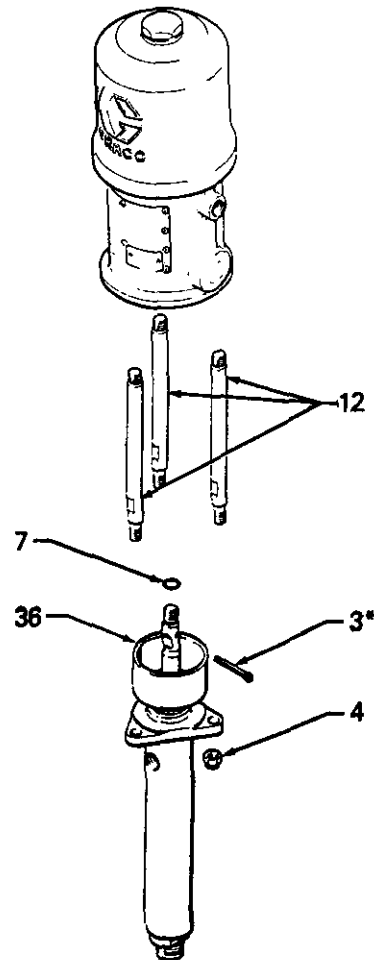

Fig 2
Keep the wet-cup (36) filled with Graco Throat Seal Liquid (TSL) to help prolong the packing life. Check the tightness of the packing nut (36) weekly. The packing nut should be tight enough to prevent leakage—no tighter. See Fig 2. Always follow the **Pressure Relief Procedure** on page 2 before adjusting the packing nut.
Loosen the tie rod locknuts (4), then remove the cotter pin (3\*) and pull the displacement pump away from the motor. See Fig 2.